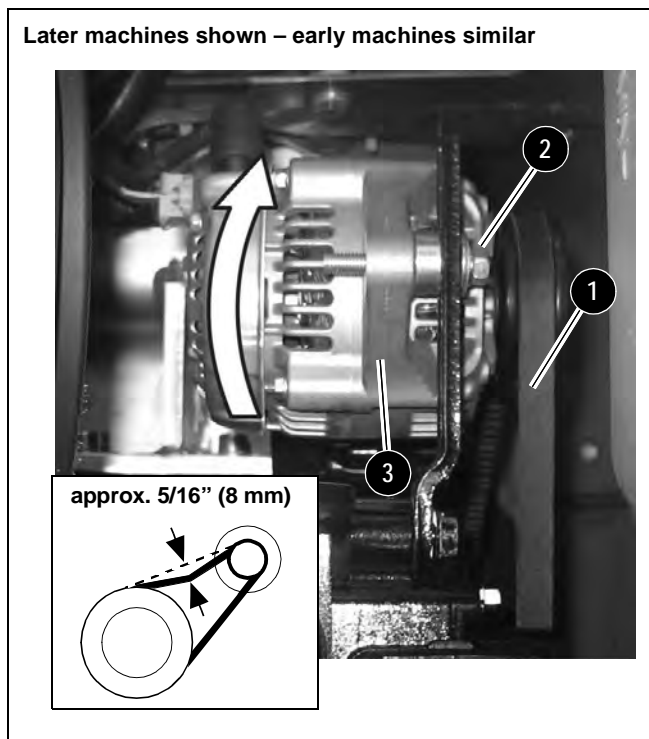

Figure 4-16 Checking & Adjusting V-belt Tension
4. Wait for the engine to cool and then open the engine cover and carefully inspect the V-belt (1) for damage. If the V-belt (1) is damaged, have it replaced by your dealer.
5. Press on the center of a span on the V-belt to check deflection. The belt deflection should be no more than 5/16" (8 mm). See Figure 4-16.
- a. Loosen adjustment bolt (2) and rotate the alternator (3) in the direction of the arrow until reaching the correct V-belt tension.
- b. Tighten adjustment bolt (2) and re-check V-belt tension. Close the engine cover when finished.